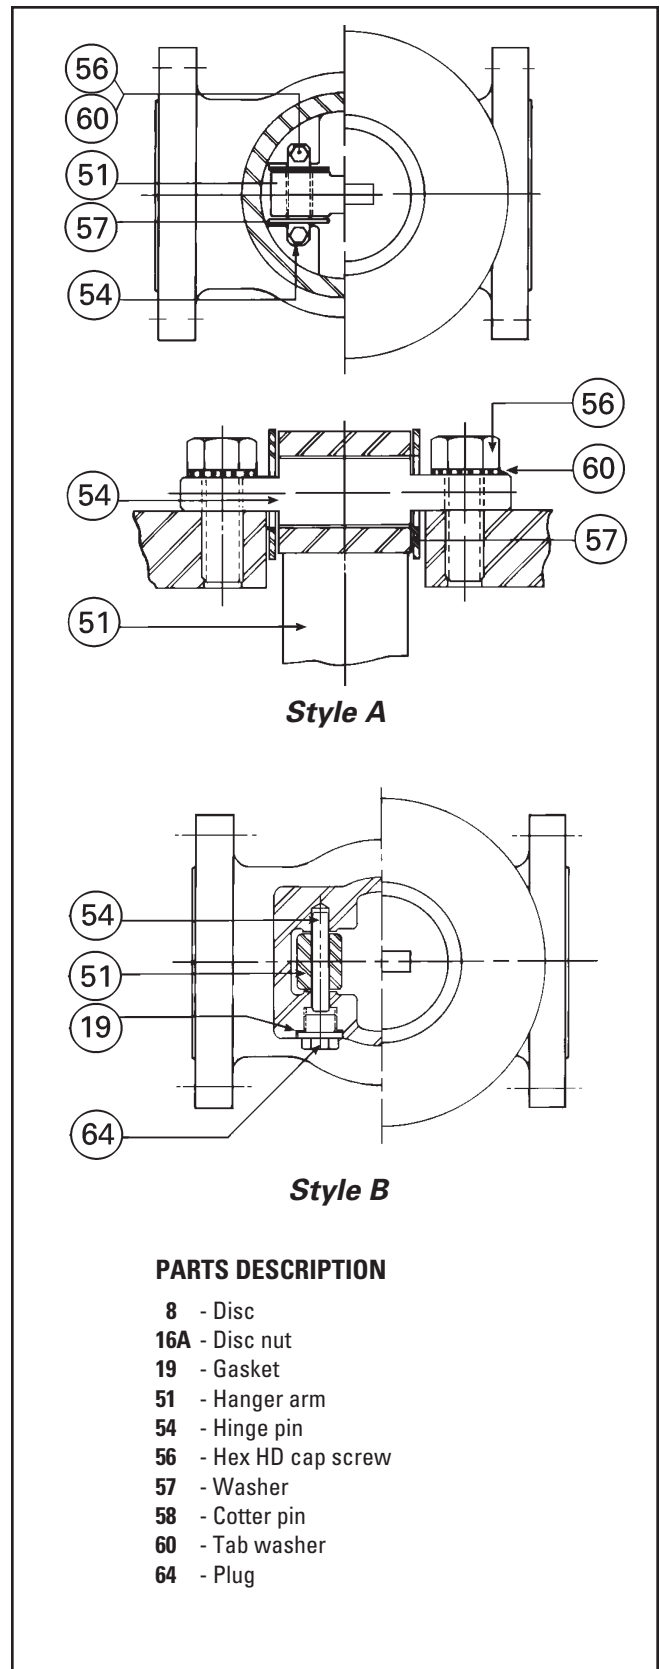

Figure 9.8B Swing check styles
4. Velan has two major styles of cast swing checks, (*Fig.9.8B*).